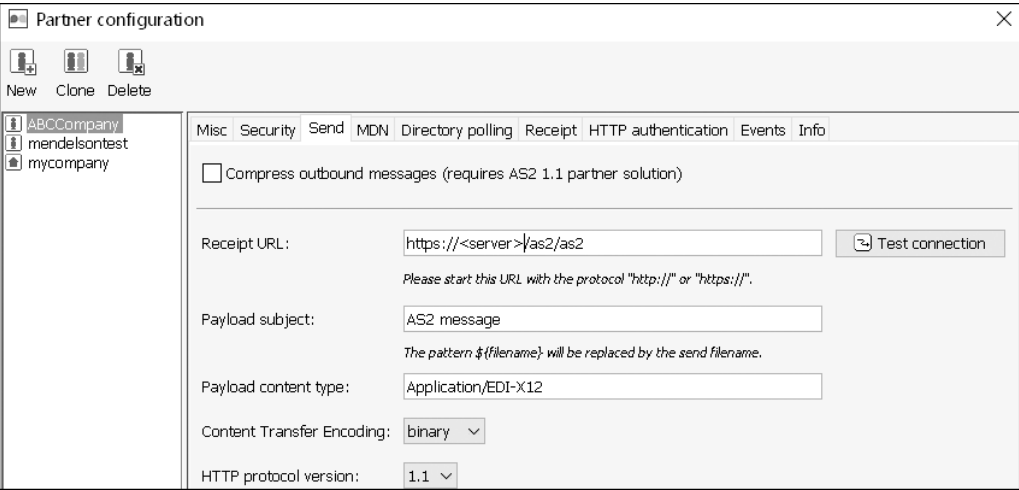

Figure 7.34 Configuring Endpoint and Payload Subject in Mendelson
- In the **Send** tab of the configured AS2 partner, enter the endpoint URL retrieved from the **Endpoints** section in the **Manage Integration Content** monitor (Figure 7.34).
- The defined **Payload Subject** in the **Send** tab of the configured AS2 partner that was created for the SAP Cloud Platform Integration tenant (Figure 7.34) needs to match the **Message Subject** configured in the **AS2** sender channel (refer to Figure 7.29).